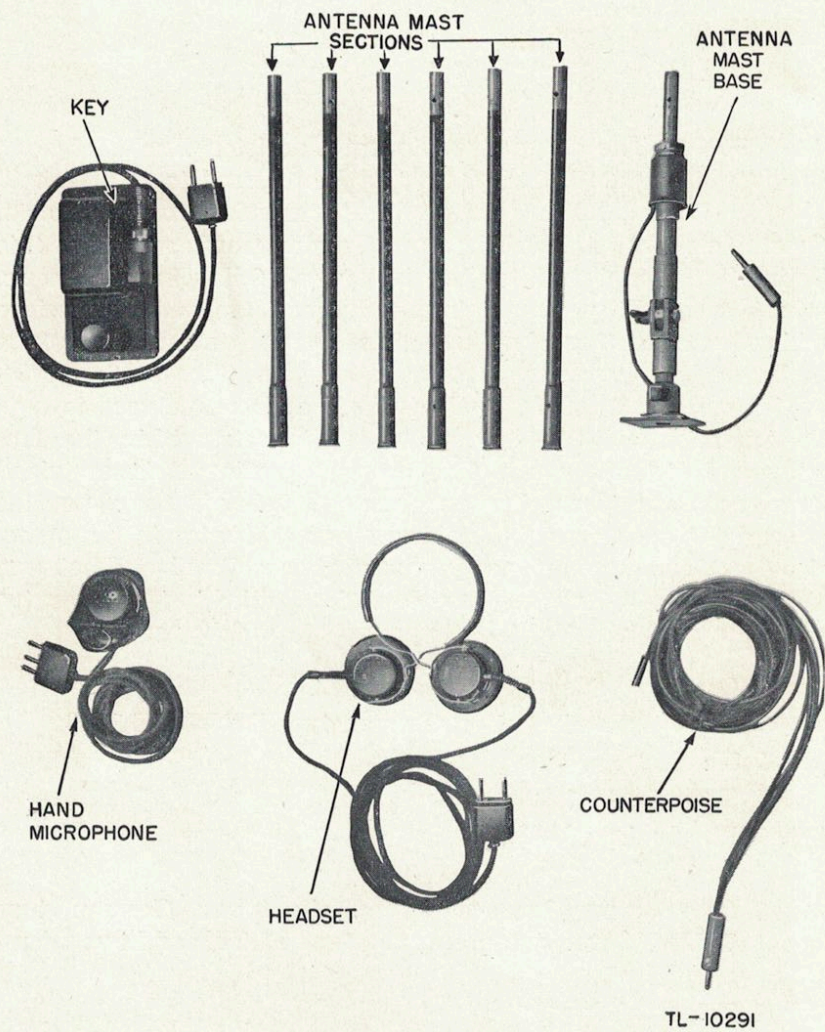

Figure 1. Accessories carried in apparatus case of German radio set,
1. DESCRIPTION. The German radio set Tornister Funkgerät d2., abbreviated **Torn. Fu. d2.**, will hereafter be referred to as "the set" or the **Torn. Fu. d2.** The American military equivalent for **Torn. Fu. d2.** is "portable radio set d2." Whenever German words appear in this bulletin, the American military equivalent will follow in parenthesis. The set, a small, portable, high-frequency transmitter-receiver combination consisting of a three-stage transmitter and a six-tube superheterodyne receiver, is capable of operation on **Tg.**, Telegraphie (cw), or **Tn.**, Telefonie (voice), and can be used in nets with American amplitude-modulated radio sets within the frequency and distance range. The complete radio set is contained in two packs, the transmitter-receiver unit being in the apparatus case, and the power supply and frequency calibrator in the accessories case. The accessories and spare parts are distributed between both packs. Figure 1 shows the accessories carried in the apparatus case. The complete list of the components is as follows: